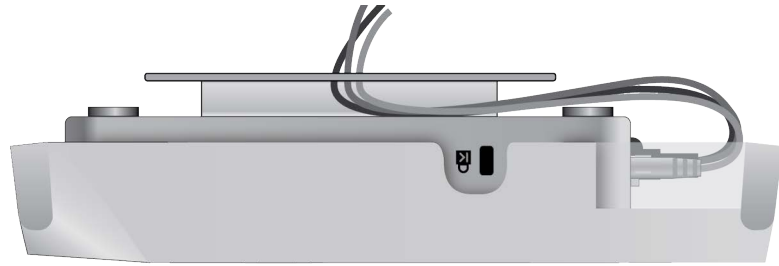

Figure 25. Fitting the Cables in the Cable Hide
4. Place the Ethernet cable(s) and power cable (if any) along the cable guides inside of the top cover in the cable hide space. See Figure 25.